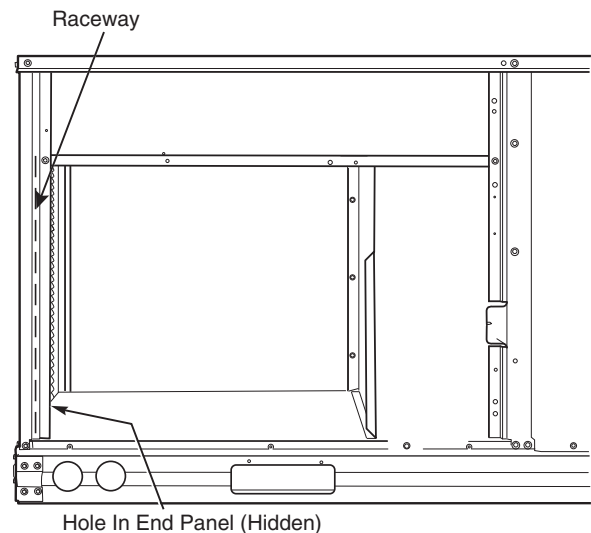

Fig. 36 — Field Control Wiring Raceway
All low-voltage wiring should be routed through the provided raceway (see Fig. 36) built into the corner post of the unit or secured to the unit control box with the electrical conduit in order to provide UL-required clearance between high-voltage and low-voltage wiring.
Pass the thermostat control wires through the hole provided in the corner post; then feed the wires through the raceway built into the corner post to the control box. Pull the wires over to the terminal strip on the upper-left corner of the Unit Control Board. See Fig. 36.
2. Feed wires through the raceway built into the corner post (see Fig. 36) to the 24v barrier located on the left side of the control box. The raceway provides the UL-required clearance between high-voltage and low-voltage wiring.
2. Feed wires through the raceway built into the corner post (see Fig. 36) to the 24-v barrier located on the left side of the control box. The raceway provides the UL-required clearance between high-voltage and low-voltage wiring.